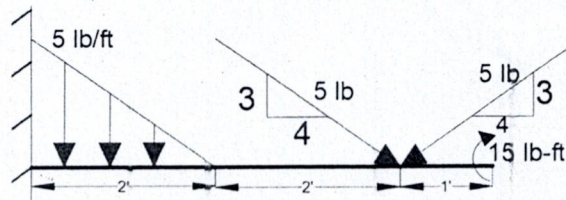

Fig. 3.2
- (b) For an element shown in Fig. 3.2, discuss where nodes should be placed with an appropriate explanation. 3